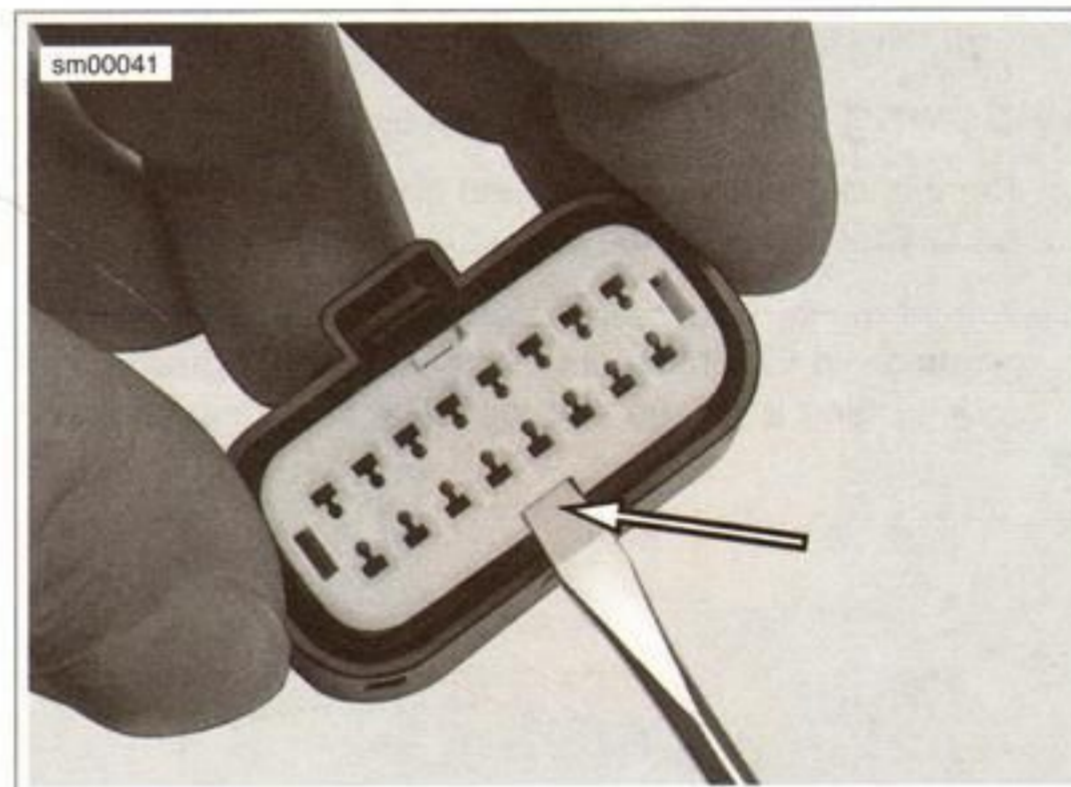

Figure A-25. Molex Connector: Secondary Lock Pry Slot (Socket Housing)
- a. **Socket Housing:** See Figure A-25. Use a small screwdriver in the pry slot. The slot next to the external latch provides a pivot point.